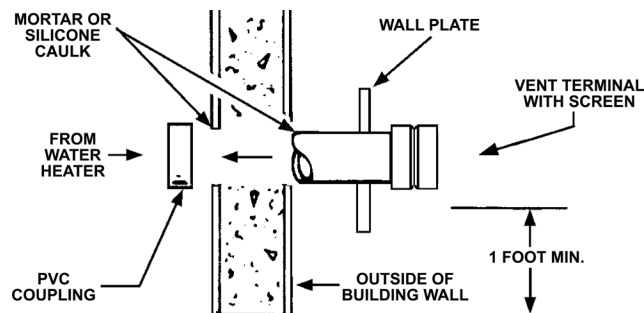
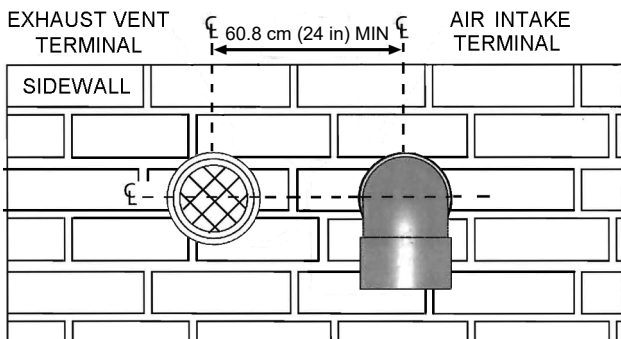

Figure 17. Sidewall Vent Termination
Figure 19. Sidewall Intake/Exhaust Separation Clearance
2. Through-the-Wall Termination - horizontal vent termination directly through an outside wall. See *Figure 17* (page 29).
The first step is to determine where the vent pipe will terminate. The vent may terminate through a sidewall as shown in **Figure 17** (page 29), **Figure 19** (page 30), **Figure 20** (page 30), **Figure 28** (page 34), and **Figure 29** (page 34) or through the roof as shown in **Figure 21** (page 31), **Figure 22** (page 31), **Figure 23** (page 31), **Figure 26** (page 34), and **Figure 27** (page 34).
Instructions on proper installation through a sidewall are provided in **Figure 17** (page 29), **Figure 19** (page 30), **Figure 20** (page 30).
When the unit is to be set up as a direct vent, the air intake screen must be removed. The air intake pipe may then be glued to the air intake provided on the unit. See **Figure 19**.